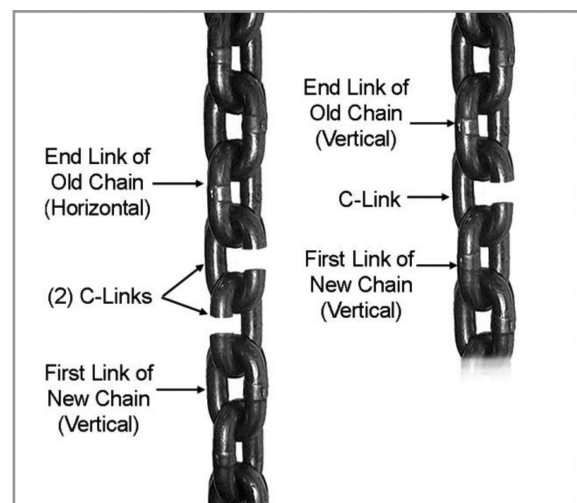

Figure 15
Vertical and horizontal are determined from the relationship with the load sprocket. Vertical links will be guided by the centre slit in the load sprocket. Horizontal links will engage in the oval pockets on the sprocket. See Figure 15.
4. Using a C-link(s), connect the new chain to the old chain. If the end link of the old chain is horizontal, use two C-links. If the end link of the old chain is vertical, use one C-link. See Figure 15. Using the correct number of C-links will properly orient the chain and ensure that the first link on the load-side end is a horizontal link.